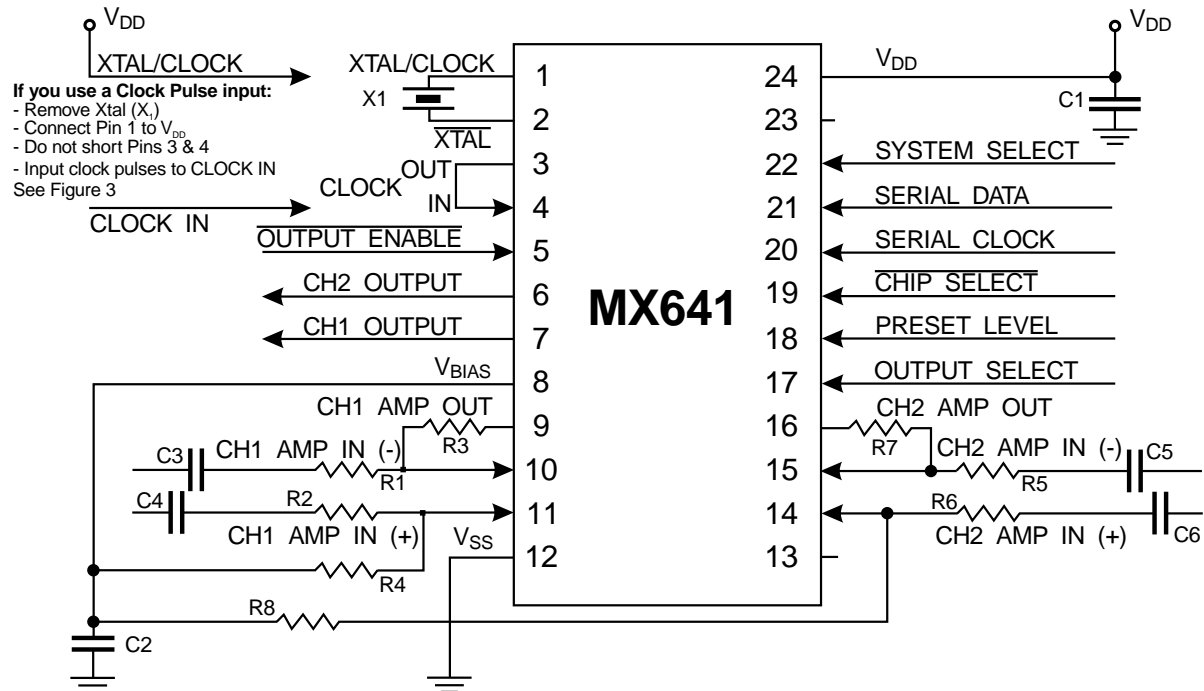

Figure 2: Recommended External Components
With the external gain (sensitivity) components used as shown in Figure 2, the gain of the input stages is 19.8dB (12kHz) or 20.5dB (16kHz). For controlled sensitivity setting the gain of each bandpass filter, and therefore the device sensitivity, is adjusted by the applied serial bits D1 to D5.
1. The recommended amplifier components (see Figure 2) are used, providing an amplifier gain at 16kHz of 19.8dB  $\pm$ 0.3dB or at 12kHz of 19.1dB  $\pm$ 0.3dB.